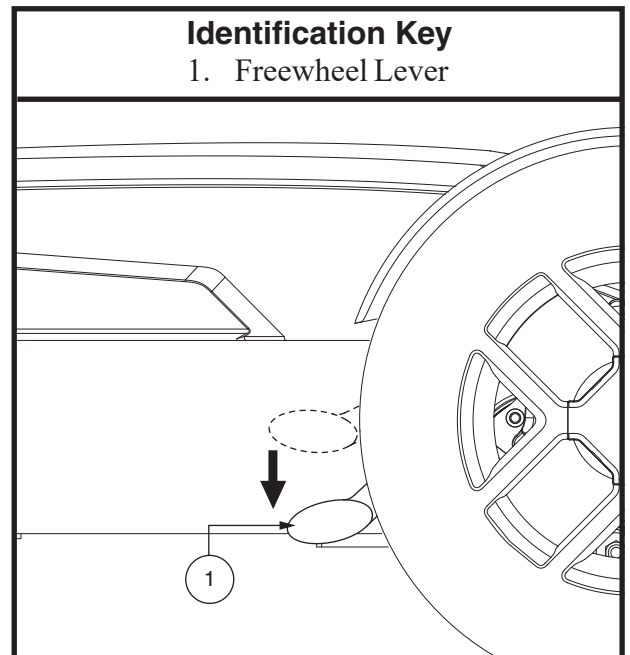

Figure 6. Freewheel Mode (Drive Disengaged)
3. Push both levers downward to disengage the drive motors (freewheel mode). See figure 6.